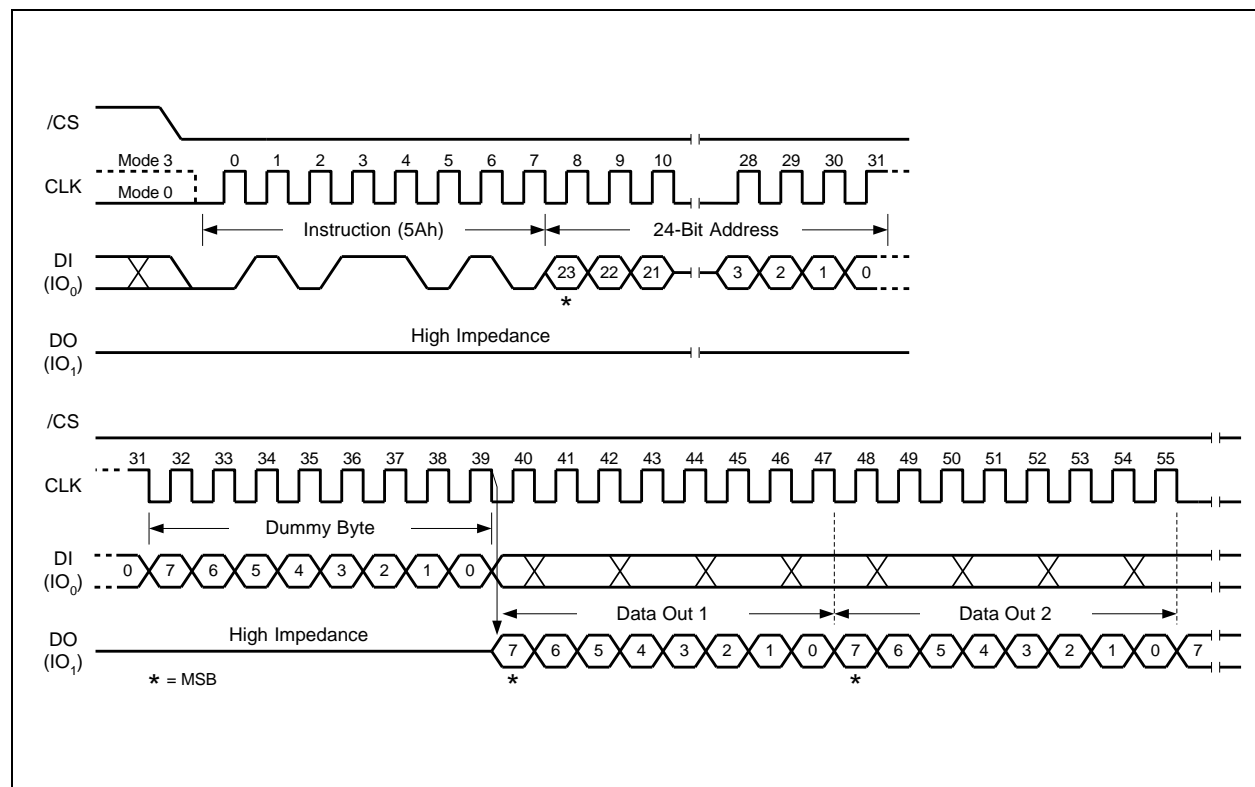

Figure 44. Read SFDP Register Instruction Sequence Diagram (SPI Mode only)
The Read SFDP instruction is initiated by driving the /CS pin low and shifting the instruction code "5Ah" followed by a 24-bit address (A23-A0)(1) into the DI pin. Eight "dummy" clocks are also required before the SFDP register contents are shifted out on the falling edge of the 40th CLK with most significant bit (MSB) first as shown in Figure 44. For SFDP register values and descriptions, please refer to the Winbond Application Note for SFDP Definition Table.